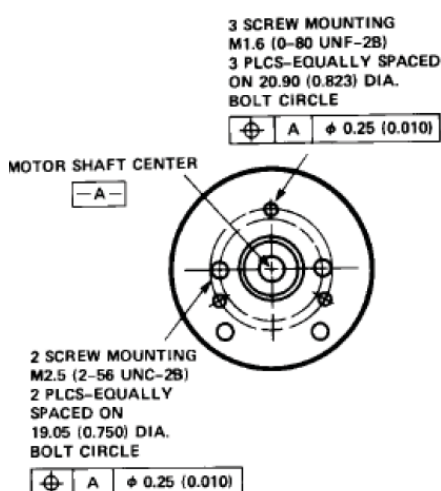
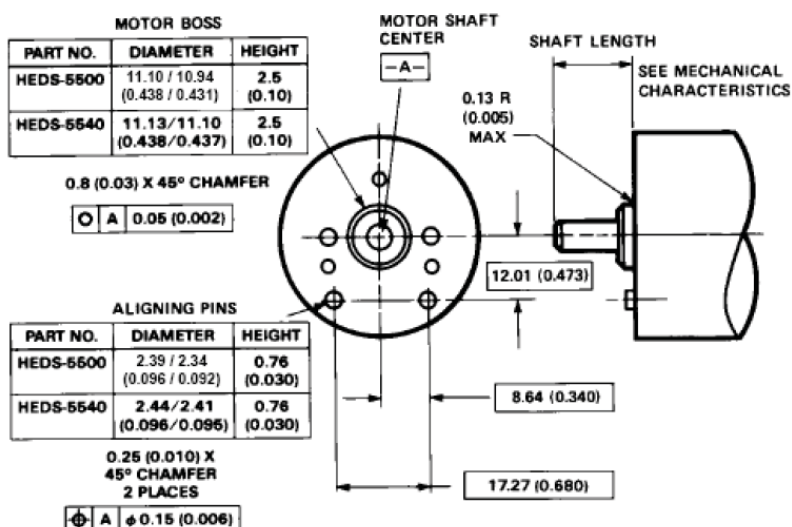

Figure 2. Mounting Holes.
Figure 3. Optional Mounting Aids.
- The HEDS-5540 and 5640 must be aligned using the aligning pins as specified in Figure 3, or using the alignment tool as shown in "Encoder Mounting and Assembly". See also "Mounting Considerations."
The HEDS-5540 and 5640 three channel encoders and the HEDM Series high resolution encoders must be aligned using the aligning pins as specified in Figure 3, or using the HEDS-8910 Alignment Tool as shown in Encoder Mounting and Assembly.
additional mounting bosses, the encoder output errors will be within the maximums specified in the encoding characteristics section. The HEDS-5500 and 5540 can be mounted to a motor using either the two screw or three screw mounting option as shown in Figure 2. The optional aligning pins shown in Figure 3 can be used with either mounting option. The HEDS-5600, 5640, and HEDM-5600 have external mounting ears which may be used for mounting to larger motor base plates. Figure 4 shows the necessary mounting holes with optional aligning pins and motor boss.